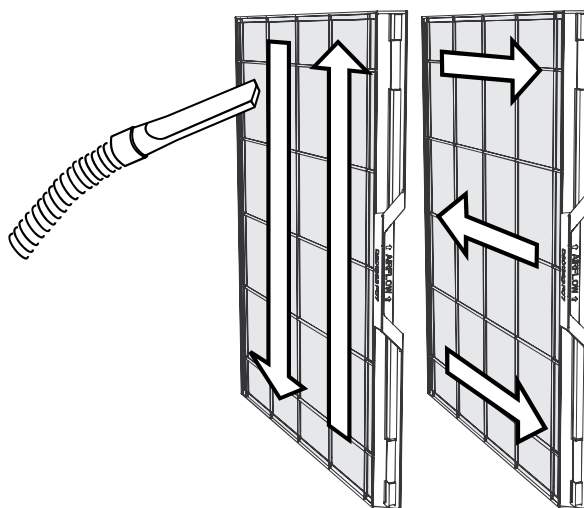

Figure 33 Vacuuming the Pre-filter
1. Using a vacuum hose, vacuum in even strokes across the length of the PRE-FILTER. After vacuuming the entire PRE-FILTER using even strokes going in one direction, repeat the process using even strokes going in the opposite direction as shown in Figure 33.